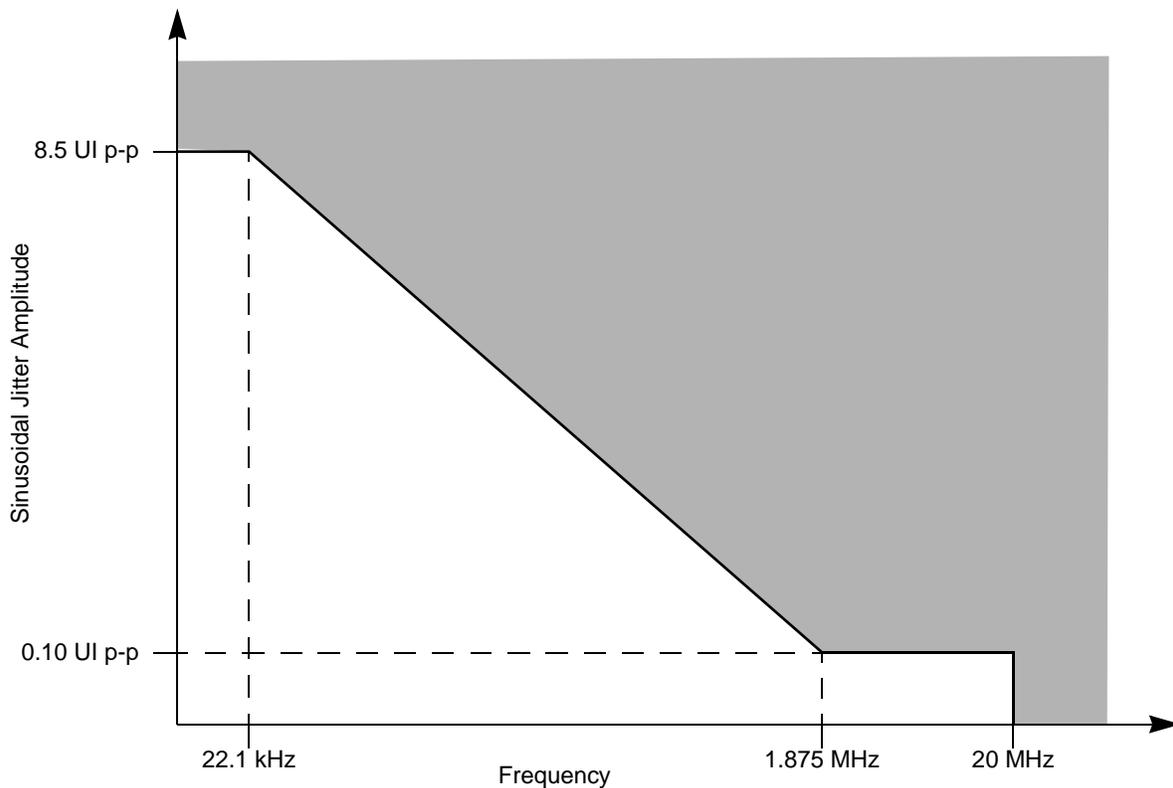

Figure 53. Single Frequency Sinusoidal Jitter Limits
1. Total jitter is composed of three components, deterministic jitter, random jitter and single frequency sinusoidal jitter. The sinusoidal jitter may have any amplitude and frequency in the unshaded region of Figure 53. The sinusoidal jitter component is included to ensure margin for low frequency jitter, wander, noise, crosstalk and other variable system effects.